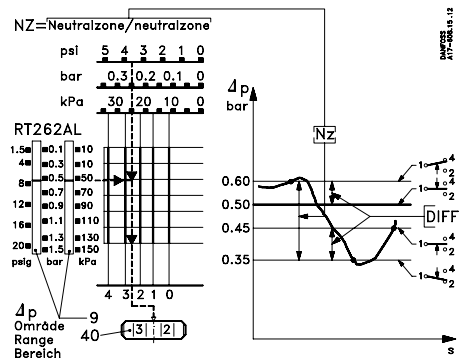

Fig. 6
As can be seen on the diagram, fig. 6., the required neutral zone of 0.25 bar is obtained by setting the neutral zone disc (40) at 2.5. Because the contact differential is 0.1 bar, the make and break differential pressures for the switch are: